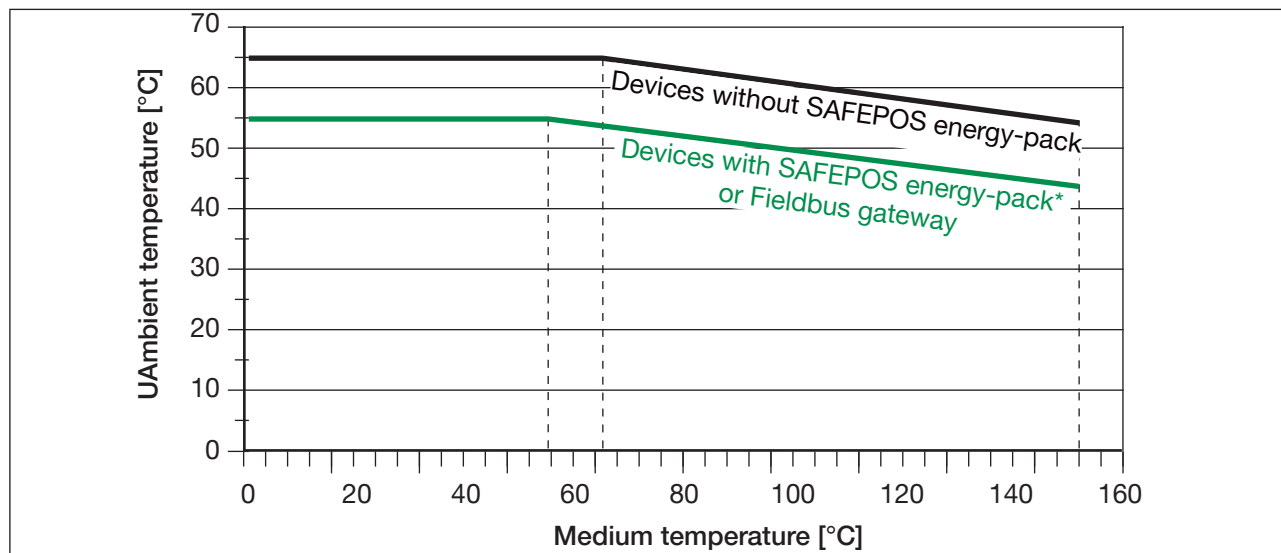

Figure 11: Temperature graph
- **Ambient temperature:** depends on the medium temperature. See “Figure 11: Temperature graph”.